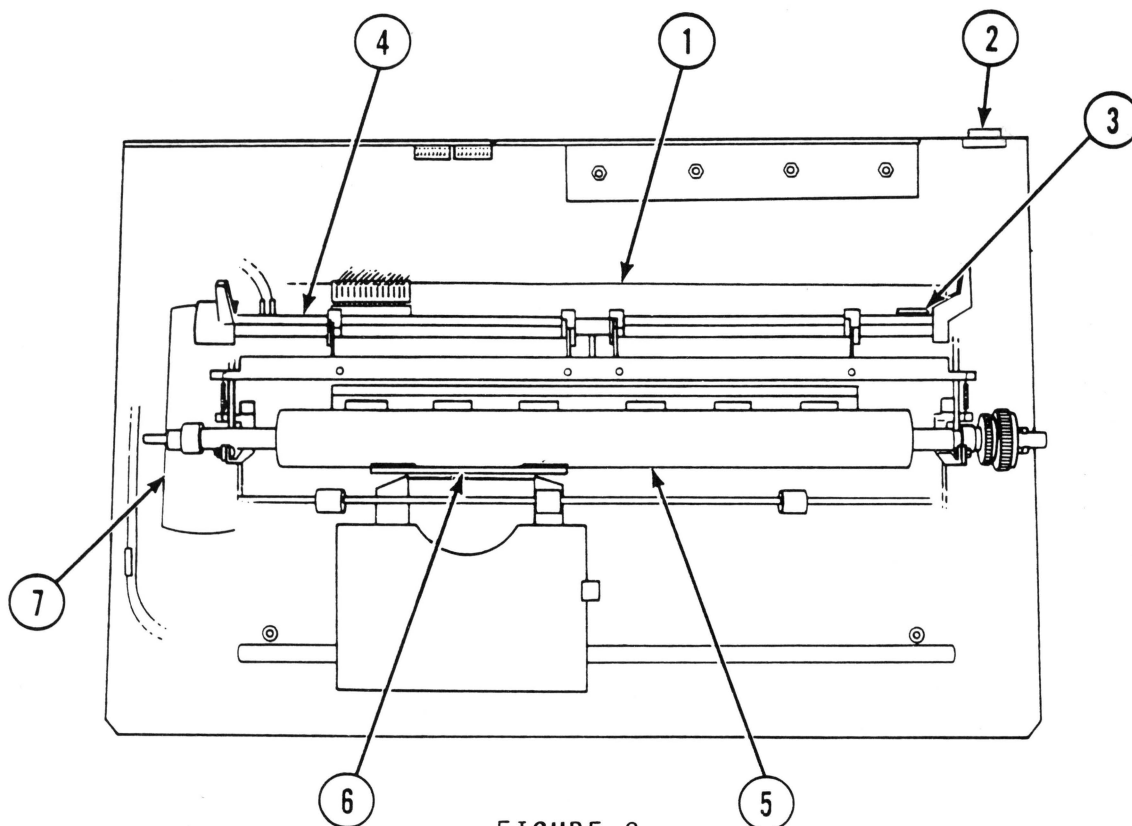

FIGURE 2
Power Supply PCB (Figure 2, #1)
-	F2, 5 amp (Figure 2, #4)